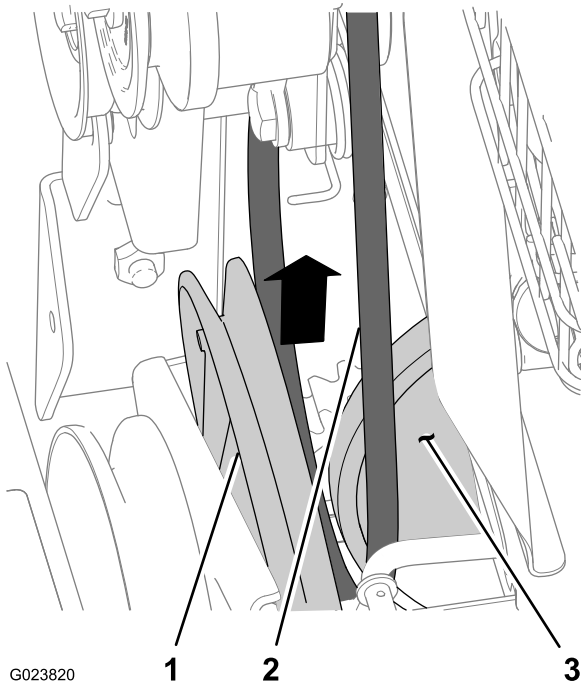

Figure 42
- Slip the traction belt out of the groove of the traction pulley and up between the pulley and the friction wheel (Figure 42).
- Align the traction belt between the friction wheel and the traction pulley (Figure 42).